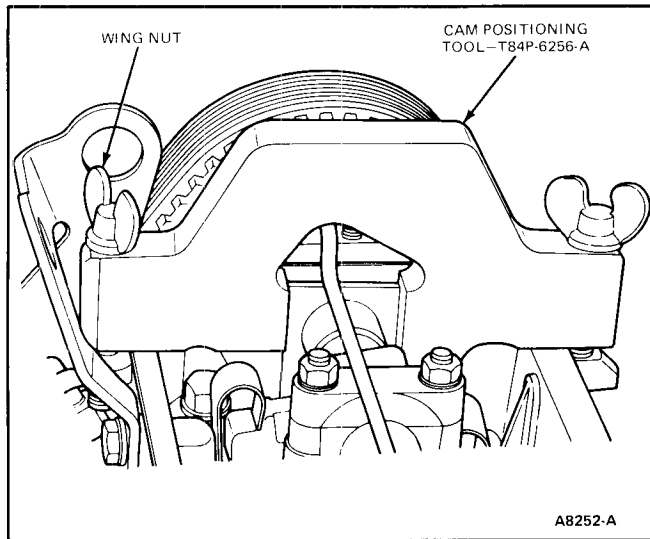

FIG. 33 Cam Positioning Tool
10. Install Cam Positioning Tool T84P-6256-A or equivalent, (Fig. 33).